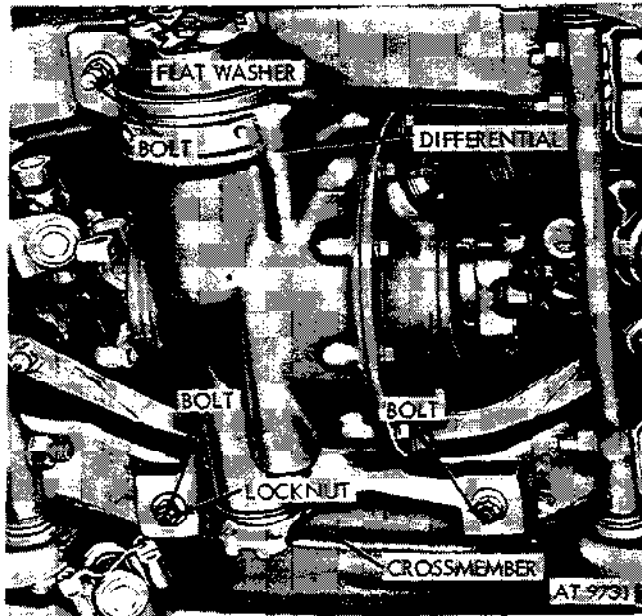

Figure 2-300. Remove differential assembly from crossmember.
(4) Remove three bolts, flat washers and locknuts securing differential assembly to front crossmember. Remove differential assembly (fig. 2-300).